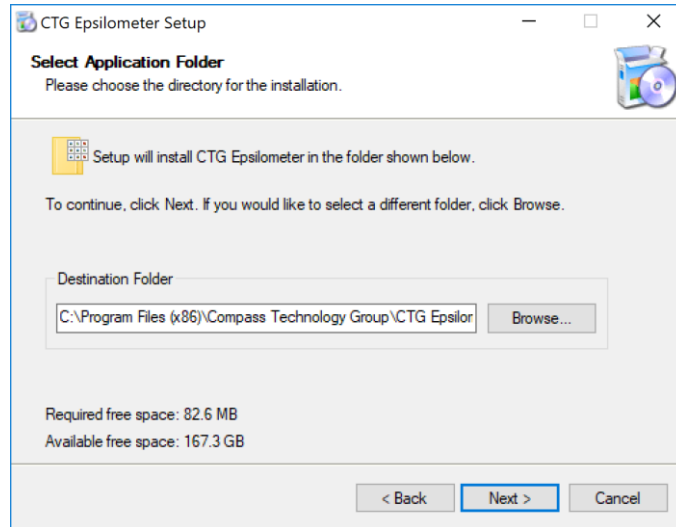

Figure 3. Selecting Destination Folder
4. Click “**Next**”. Select a folder destination for CTGEpsilon software to be installed on computer and click “**Next**” button. (Figure 3.)